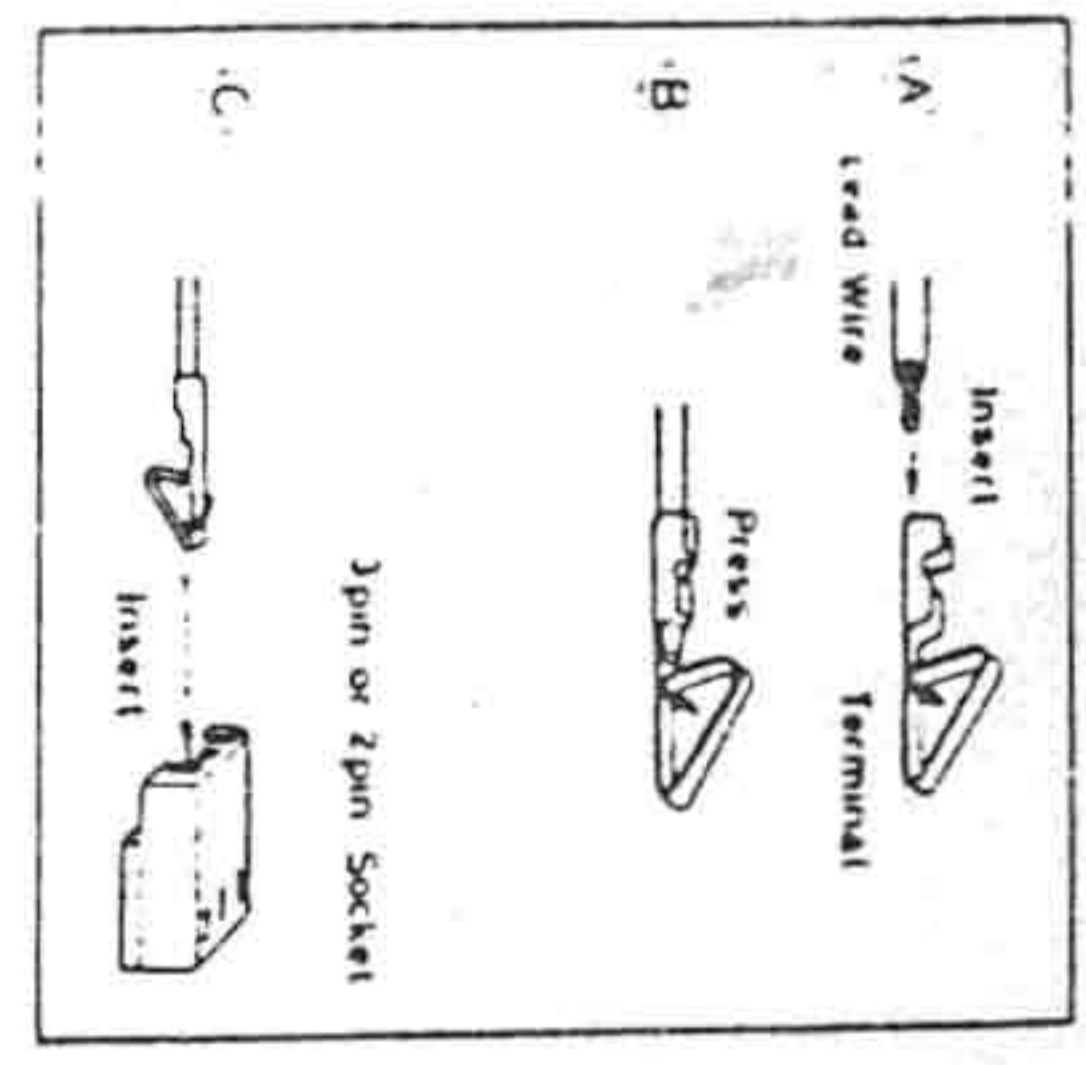

Fig. 4
1. As shown in figure 4 (A), insert the lead wire into the terminal (part no. SJTA/12).
2. As shown in figure 4 (B), press the terminal to secure the lead wire.
3. As shown in figure 4 (C), insert into a 3-pin socket (part no. SJS5317) or 2-pin socket (part no. SJS5209).